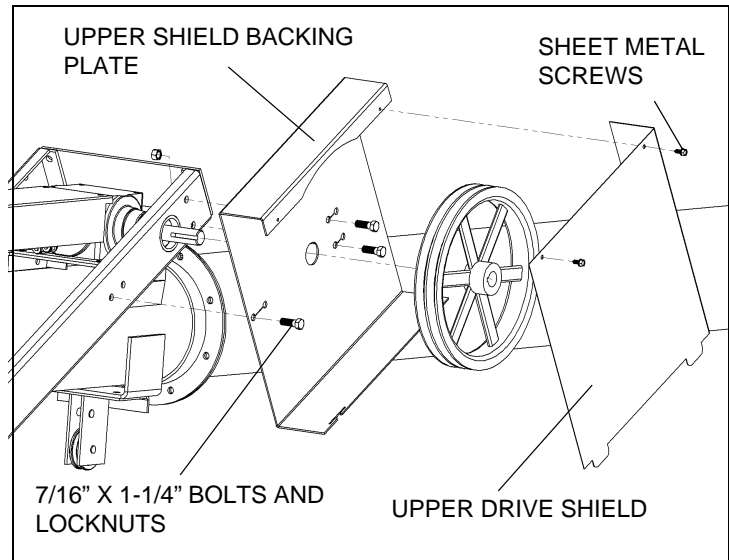

Figure 3.35
13. Install upper shield backing plate to the upper end of the left frame channel using three 7/16" x 1-1/4" bolts and locknuts (Figure 3.35). Orient bolts to point toward the frame, with nuts on inside of channel. Tighten bolts.
14. Install supplied 12-3/4" aluminum pulley onto gearbox as shown in Figure 3.35. The pulley should be installed as far away from the frame as possible while still being completely on the gearbox shaft. Use a 1/4" x 1-1/2" square key and be sure to tighten all set screws thoroughly. These screws should be re-tightened after each of the first few uses.
19. Slip tabs of upper drive shield into notches on the upper shield backing plate mounted to the frame in 13. Secure shield with 2 sheet metal screws (Figure 3.35).